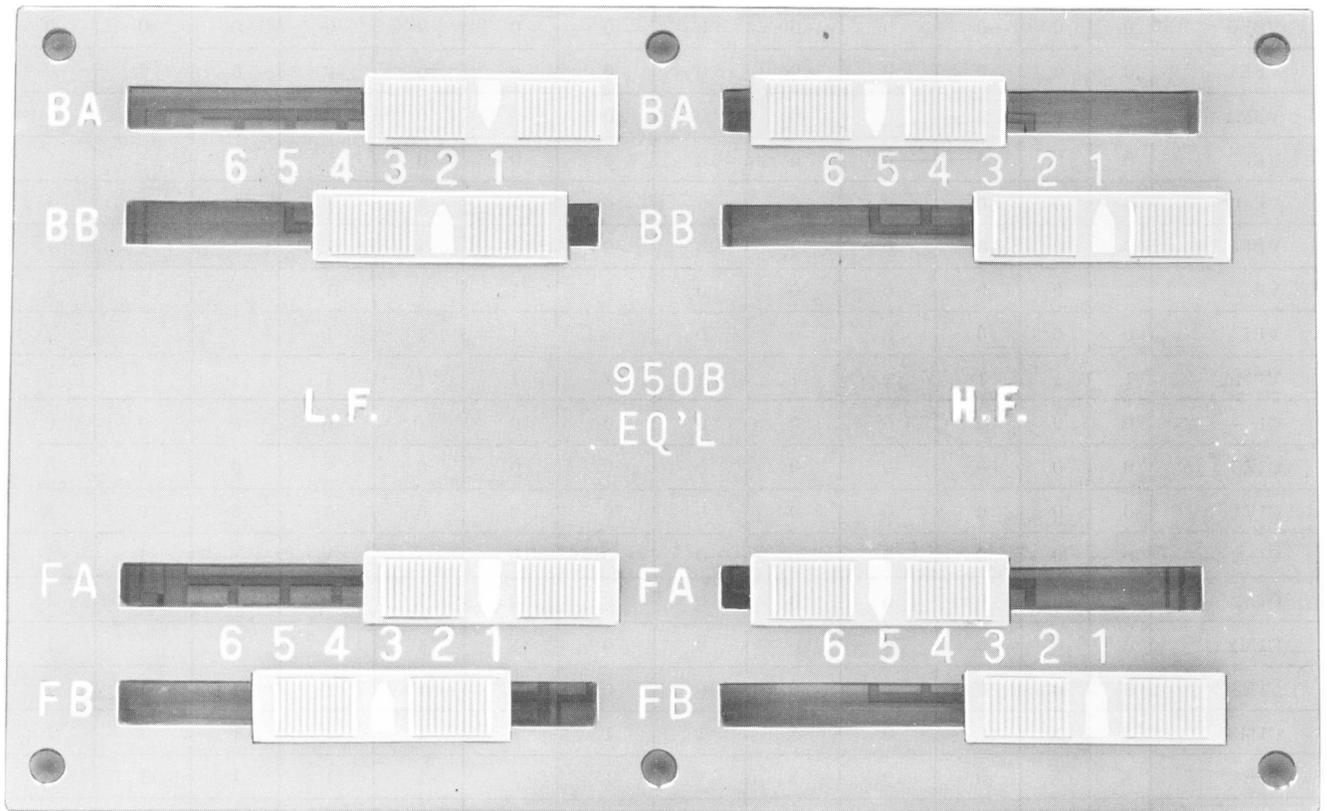

Fig. 1—950B-Type Equalizer
1.01 This section is a user's guide to provide settings for the 950B-type delay equalizer (Fig. 1). Recommended settings are given for the most frequently used private line data facilities. The information in this section supplements the ADE950 computer program which supplies settings for any facility. The ADE950 equalizer program is detailed in Section 856-200-100.